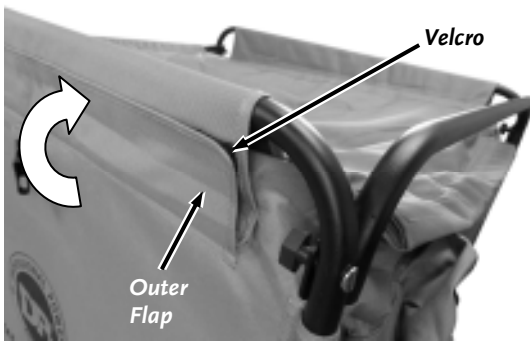

Figure 39
21. Lift the Outer Flap up and secure it to the Velcro on the Inner Flap. Repeat for the other side (Figure 39).